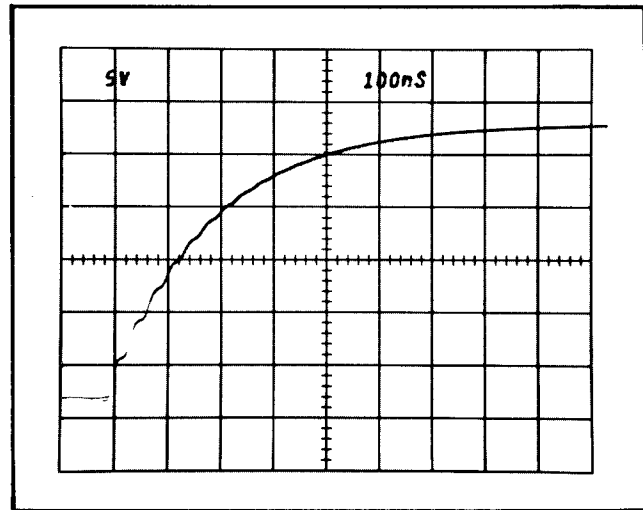

Fig. 2-11. Measuring risetime.
8. Adjust the horizontal POSITION control to move the 10% point of the waveform to the second vertical line of the graticule. For example, with a five-division display as shown in Fig. 2-11, the 10% point is 0.5 division up from the start of the rising portion.
Example. Assume that the horizontal distance between the 10% and 90% points is four divisions (see Fig. 2-11) and